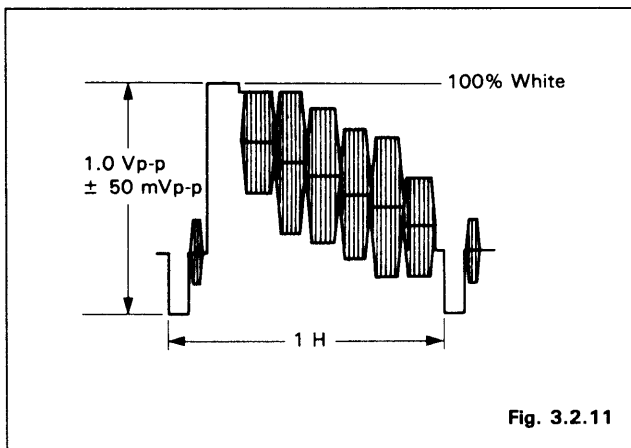

Fig. 3.2.11
- Adjust VR201 (E-E LEVEL) for the video luminance signal level of 1.0 V_{p-p} ± 50 mV_{p-p}. (Refer to Fig. 3.2.11).